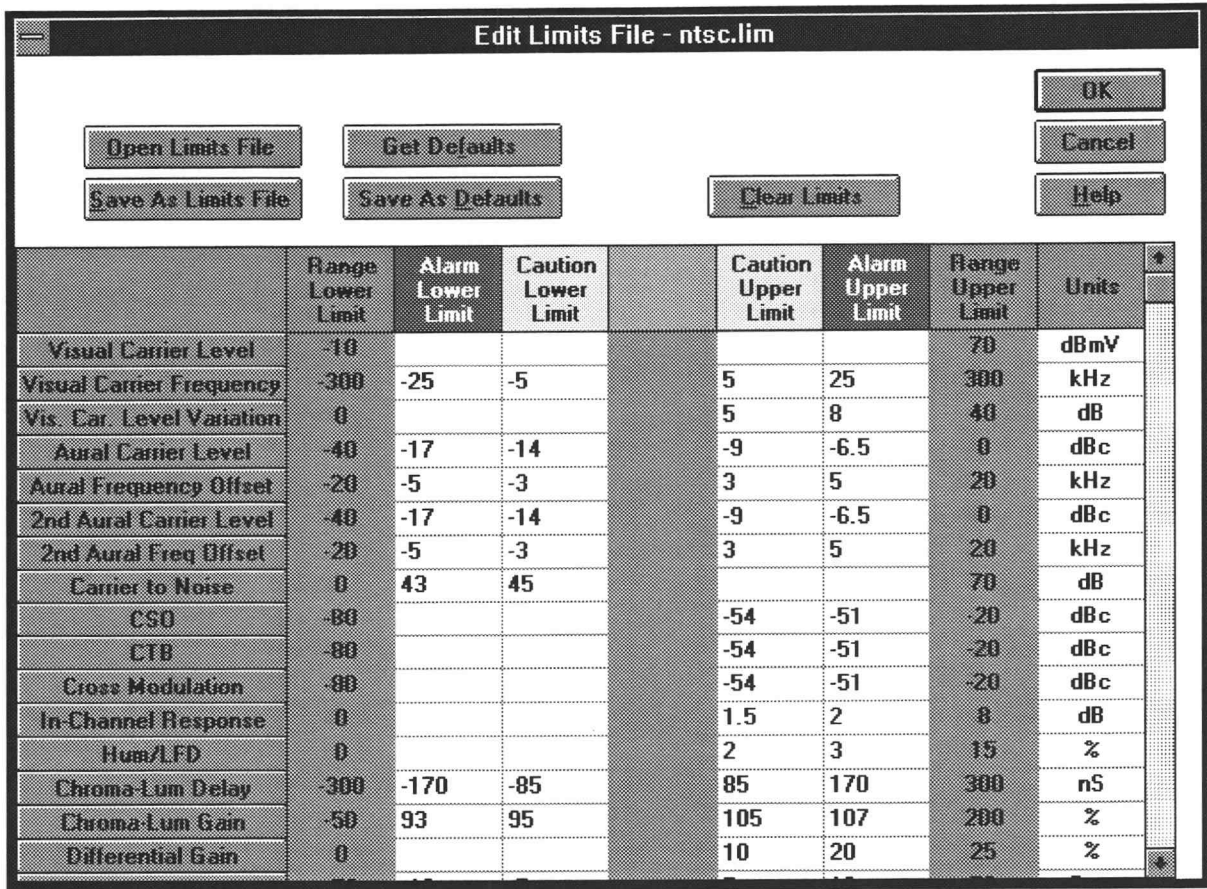

Figure 6-20. The Edit Limits File - ntsc.lim dialog box. Use the vertical scroll bar to display all of the Measurement Limits.
3. Choose the Edit Limits File command button. Figure 6-20 shows the Edit Limits File - ntsc.lim dialog box.